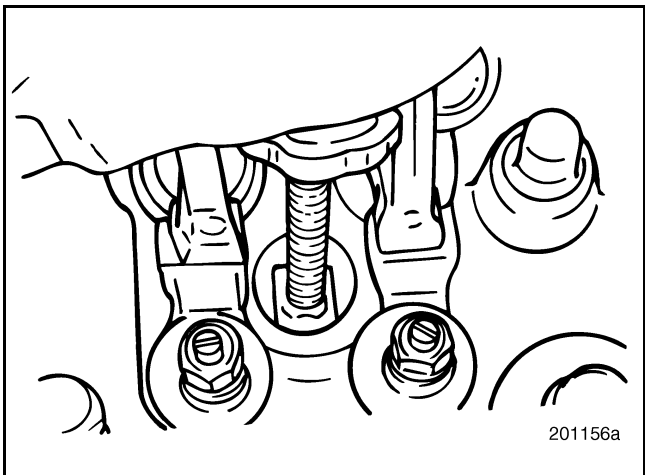

Figure 374 — Nozzle Holder Installation
5. After ensuring that the nozzle holder locator pin is properly aligned with the alignment notch in the nozzle holder sleeve, push downward on the handle of the installation tool driving the nozzle holder into position. Refer to Figure 374.